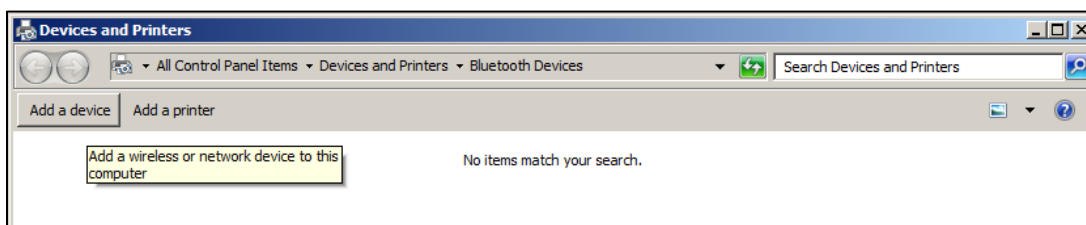

Figure 8: Select Add a device
1. Click **Add a device** (Figure 8).